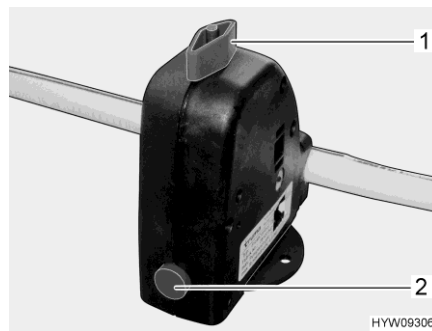

Fig. 201 Safety/drainage valve (Truma)
- Close the safety/drainage valve (Truma). Turn the knob (Fig. 201,1) perpendicular to the safety/drainage valve and push the push button (Fig. 201,2) in.